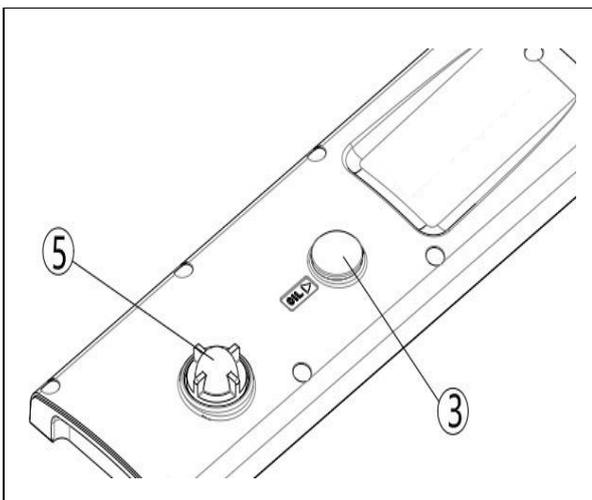

Figure 5-3
When using the stitch machine for the first time or after a long period of non-use, remove the rubber stopper marked "OIL"③ and add oil to the level indicated by the line above the oil sight glass④ (Figures 5-3, 5-4). While running the stitch machine, observe the oil sight window⑤ to confirm if oil is being ejected from the nozzle (Figure 5-3).